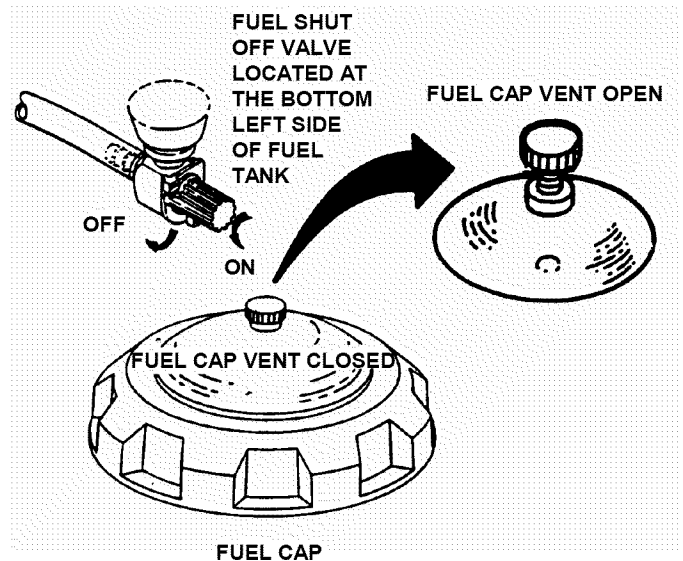

FIGURE 2.3
**2.1.6.** Add fuel to tank of the YARD CRUISER outside where fumes can safely dissipate. Make sure fuel filler cap is tight and vent is open after refueling. Turn fuel shut off valve to the "OPEN" position. See Figure 2.3. Refer to engine owner's manual for fuel specifications.
4. Open vent on fuel filler cap by turning counterclockwise. **IMPORTANT:** Failure to open vent on the fuel filler cap can cause engine to stall. See Figure 2.3.
5. Turn fuel shut off valve to the open position. See Figure 2.3.
1. Make sure fuel cap is on tight. Turn fuel shut off valve to the "CLOSED" position. Start engine and allow it to run until engine runs out of fuel. Close vent on fuel filler cap. See Figure 2.3.